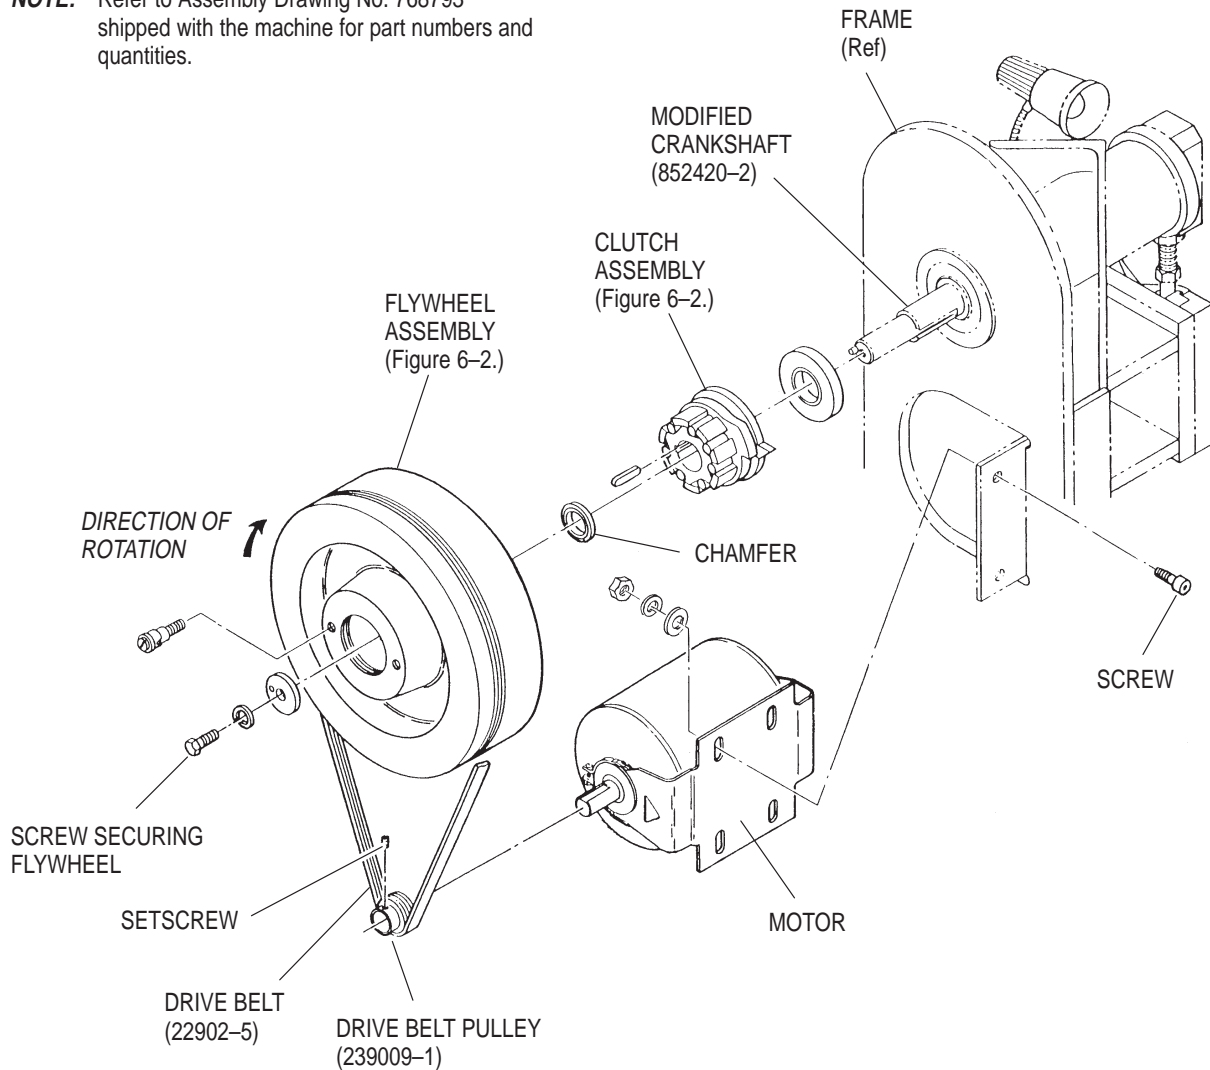

Figure 6-1. Motor-Flywheel Group Replacement
6.1. Drive Belt Replacement (Figure 6-1)
6.2. Motor Replacement (Figure 6-1)
6.3. Flywheel Removal and Installation (Figure 6-1)